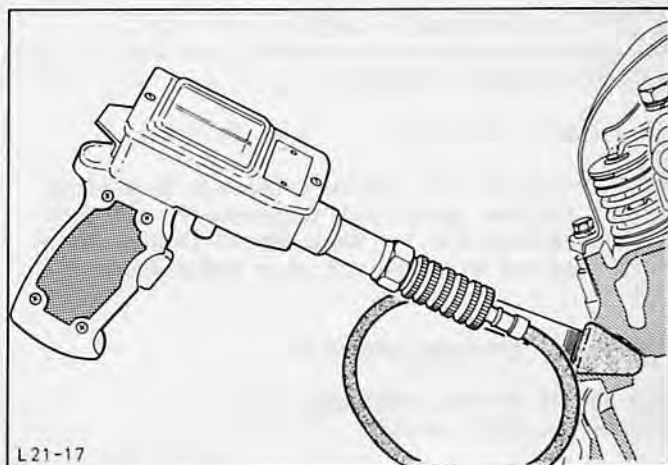

Fig.7. Compression tester.
3. Insert graph paper in tester. Connect tester, pushing rubber seal firmly into the spark plug bore in cylinder no.1, Fig.7. Crank engine on starter with throttle fully opened until the needle on the tester stops rising.